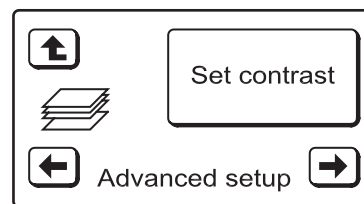

FIG. 27
4. Press the LEFT (←) button twice to display the screen shown in Figure 27.